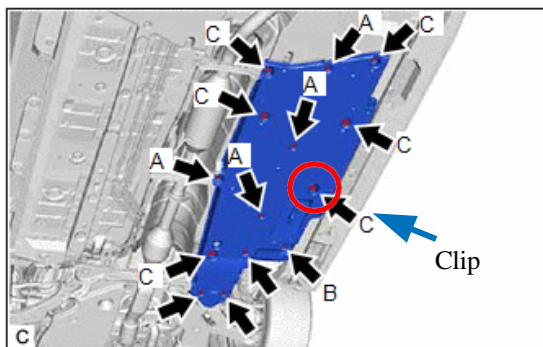

Figure 20
16. Remove the clip (c) shown in Figure 20 from the front floor cover RH in order to gain access to the front floor pan drain grommet.